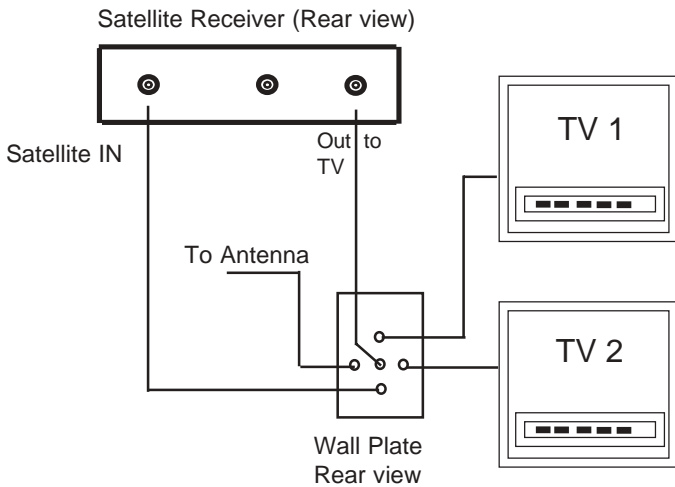

Figure 9
5. If the Coach is equipped with an amplified antenna and is prewired for Satellite, connect an RG-6 cable from the connector marked **satellite** on the wall plate to the rear of the satellite receiver "Satellite IN". From the satellite receiver "Out to TV" go to the center connector on the rear of the wall plate (Fig. 9). Use the switch on the wall plate to get the signal for the antenna or satellite. When the switch in front of the wall plate is ON the signal from the antenna will go to both TV's. When the switch is OFF the signal from the satellite receiver will go to both TV's.